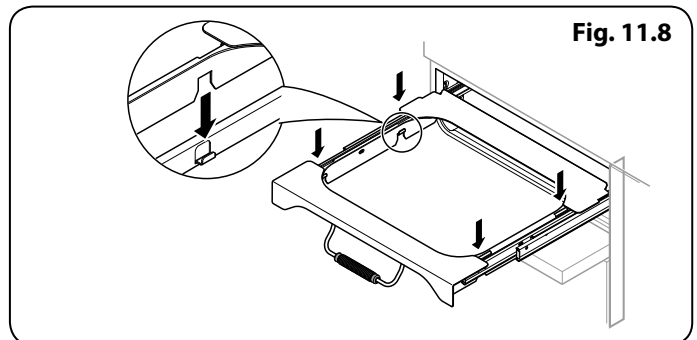

Fig. 11.8
5. Once you have finished, hook the side rails back onto the sides of the chamber. Pull the telescopic rails out and fit the broiler tray onto them, making sure to locate the cut-outs onto the telescopic runner tabs (**Fig. 11.8**).